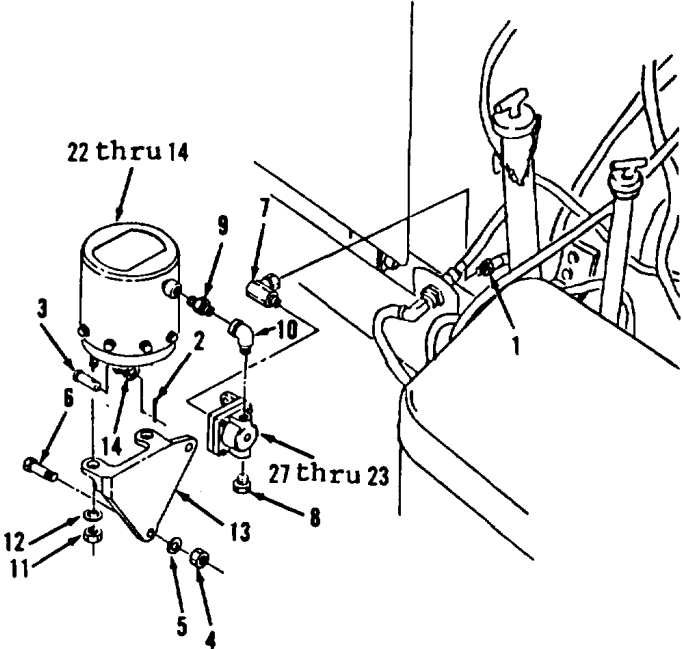

Figure 6-3.
1. Position items 22 thru 14 as an assembly (Figure 6-3).
2. Install bracket (13), two lock-washers (12) and nuts (11).
3. Install elbow (10) and nipple (9).
4. Position items 27 thru 23 as an assembly.
5. Install plug (8) and elbow (7) to items 27 thru 23 as an assembly.
6. Install two bolts (6), lock-washers (5), nuts (4) on bracket (13).
7. Connect shop air line on elbow (7).
8. Install pin (3) to rod end (14).
9. Install cotter pin (2) to pin (3).
10. Apply air pressure to items 27 thru 23 as an assembly with shop air line.
11. Disconnect shop air line from elbow (7).